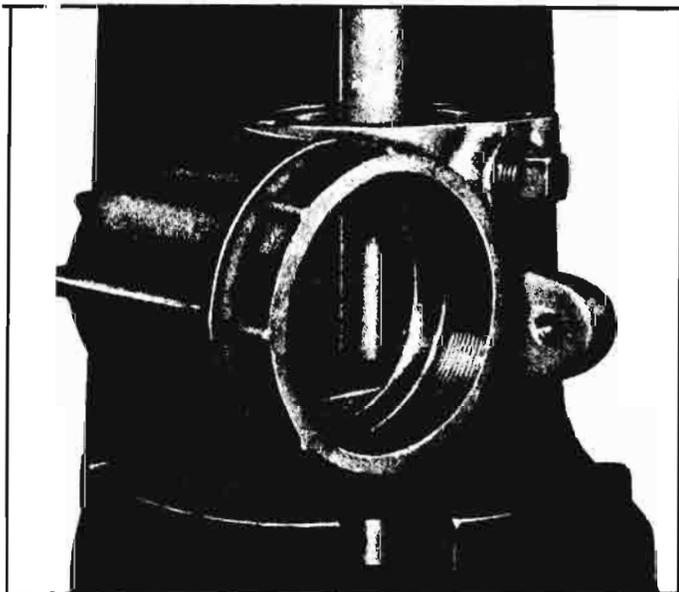

Fig. 4-14—Removing Sector Shaft Bushing
1. Support steering gear housing in an arbor press and press sector shaft bushing from housing with Tool J-8366-2, inserted from lower end of housing (fig. 4-14).